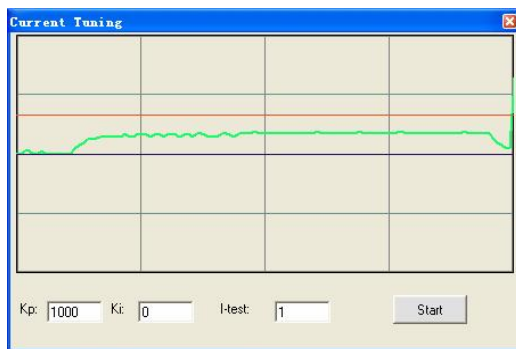

Figure 6-22: Current loop tuning with Kp=1000, Ki=0
Step 3: Increase Kp to 1000 and click **Start**. The gap between target value and actual value is smaller but a higher **Kp** is needed. See figure 6-22.